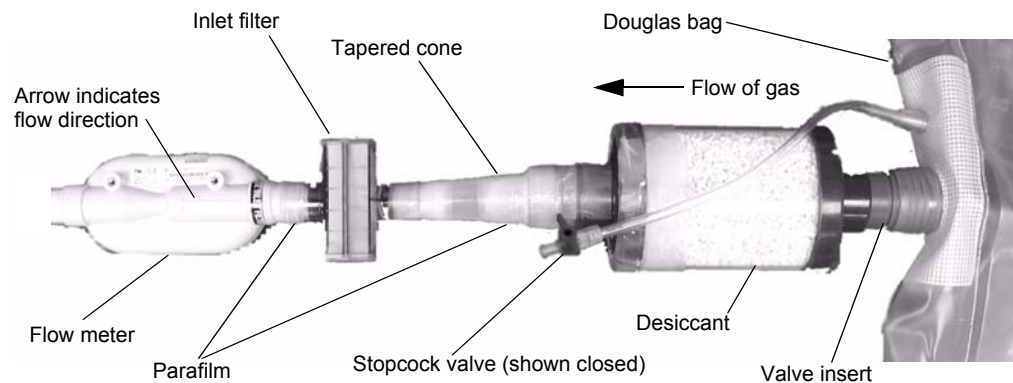

Figure 4-11. Gas volume testing assembly
1. Locate and assemble the components to create the gas volume testing assembly (see Figure 4-11 for a photograph of this assembly).
7. Once you have created the gas volume testing assembly (as shown in Figure 4-11), you have connected the flow meter to your lab computer via the hardware interface, energized the flow meter, and opened the LabView program that will display the output of the flow meter, you are ready to measure the gas sample volume in your Douglas bag.